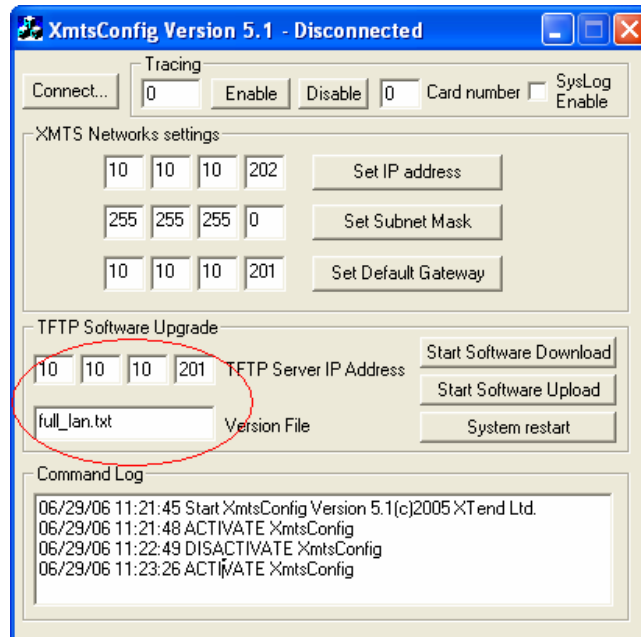

Figure 20: Download of WMTS Image File
2. In the main window of the WMTS Configuration Tool (Figure 20), perform the following in the TFTP Software Upgrade section: